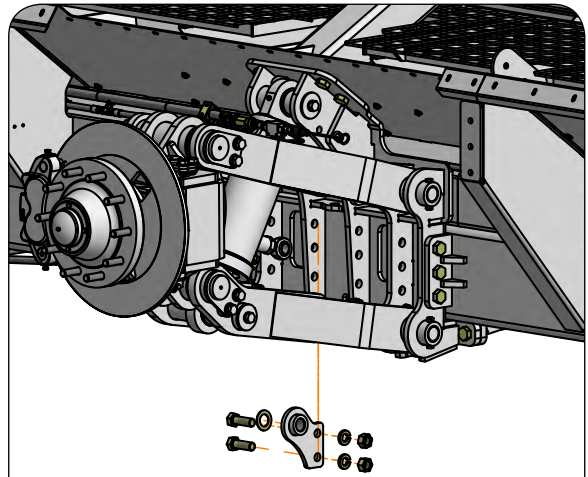

FIG. 1-18
7. Remove and save the front, right-hand pivot bushing weldment (286175B) with self-lubricating bushing (9004613), washer (286182), 1"-8UNC x 3" cap-screws (9390-187), 1" lock washers (9404-042), and 1"-8UNC hex nuts (9394-020). (FIG. 1-18)